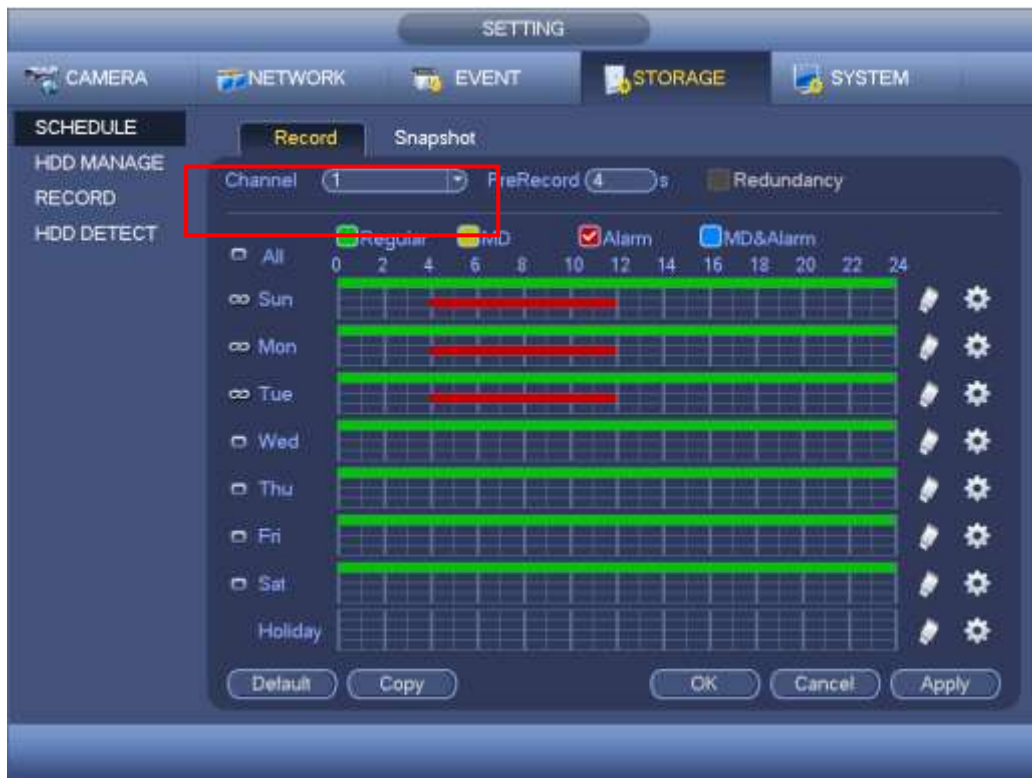

Figure 4-156
- In main menu, from Setting->Camera->Encode->Schedule interface, please enable snapshot function. See interface on the right of Figure 4-156.